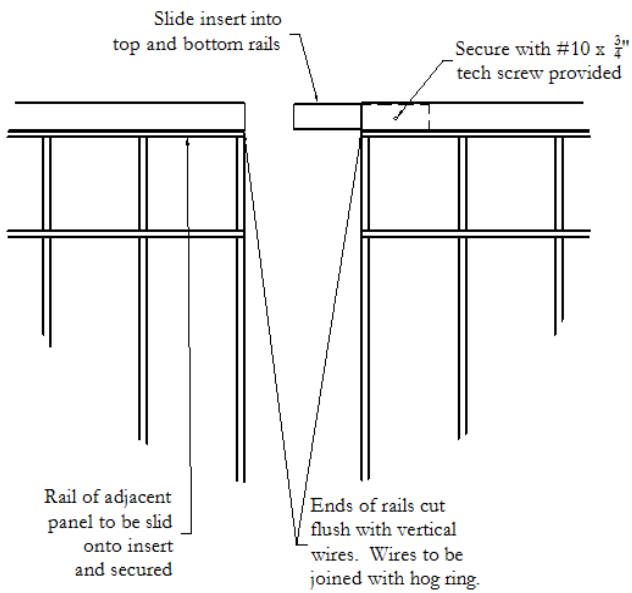

FIGURE 2
4. **Passby and Retrofit Systems:** Fence sections will be joined through use of internal sleeves provided (see Figure 2) and fence sections secured to posts through the use of the 1½” Tech screws provided (Predrilling may be necessary for some retrofit posts. Use a 9/64” drill bit). If rails extend past end vertical wires, the ends of all rails should be cut off allowing verticals to abut and horizontal lines to be continuous (see Figure 2). These fence lines may be continued as long as the slope of the ground will permit.